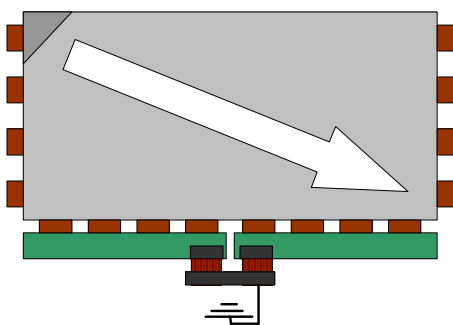

Fig.5 Direction of peeling off a protection film.
- Peeling direction shows below Fig.5.